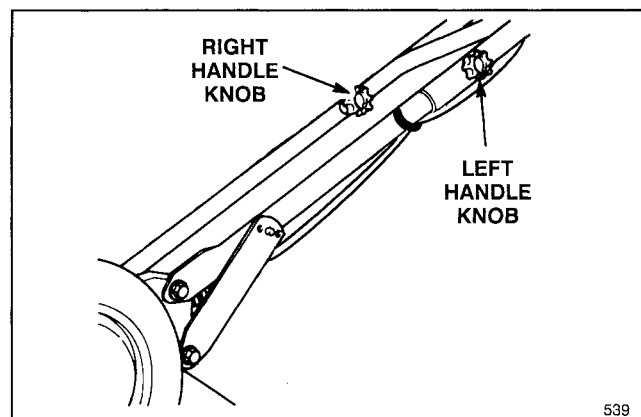
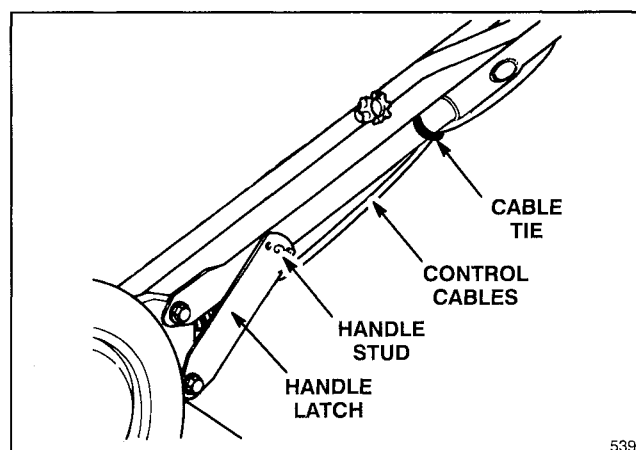

Figure 1
Figure 2
INSTALL HANDLE (Fig. 2)
2. The left handle knob is shipped from the factory on the outside of the handle (Fig. 1). Remove the left knob and bolt. Reinstall knob and bolt on inside of handle (Fig. 2). Both handle knobs should be positioned on the inside of the handles.
3. Align handle and tighten handle knobs. Move handle latches slightly outward so they will not be in the way when pivoting the handle backward into the operating position (Fig. 2).
4. Pivot handle backward. Move handle latches inward while snapping handle stud into center hole of handle latch (Fig. 2). If a handle latch does not fit tightly against the handle tube, remove latch from handle stud, bend the latch inward, and reattach to handle stud. Repeat as necessary to ensure a tight fit between latch and handle.
5. Ensure control cables (Fig. 2) are to the rear and inside of handles. If handle height is not satisfactory, adjust by placing handle stud (Fig. 2) into a different hole. Tighten handle knobs.